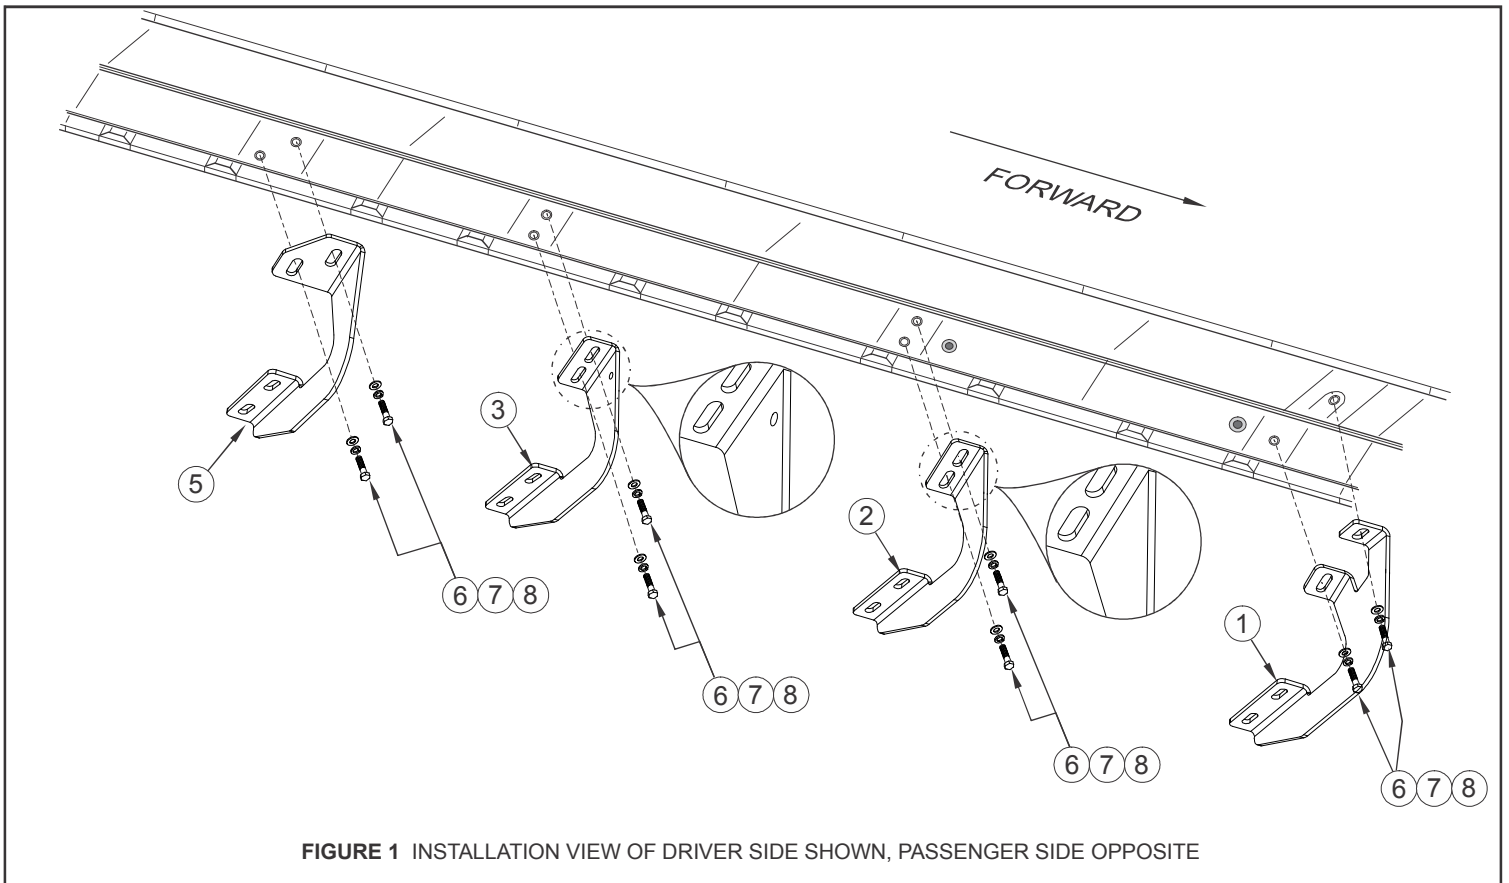

FIGURE 1 INSTALLATION VIEW OF DRIVER SIDE SHOWN, PASSENGER SIDE OPPOSITE
- STEP 2. Determine front, front center, rear center and rear brackets. Rear/center bracket has 1 identification hole. SEE FIGURE 1.
- STEP 3. Attach drivers side brackets to underside of body panel using two M8-1.25 x 30mm hex head bolts, 3/8" flat washers, and 3/8" lock washers per bracket. Hand tighten. SEE FIGURE 1.